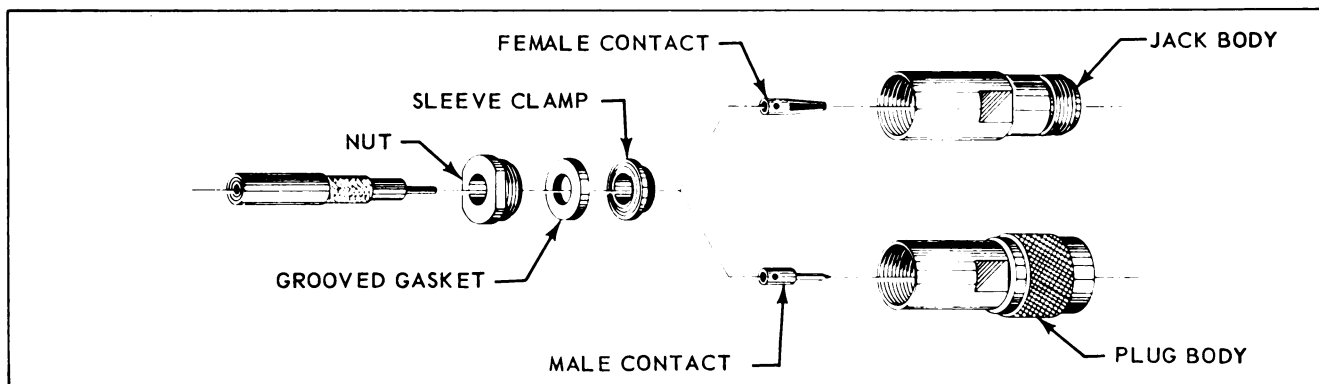

Figure 4-29. Improved N Connectors - Exploded View
c. Improved Version (See Figure 4-29) - consists of a body assembled to coaxial cable with nut, grooved
c. Disassemble nut, gasket and sleeve clamp from plug or jack body. See Figure 4-29.